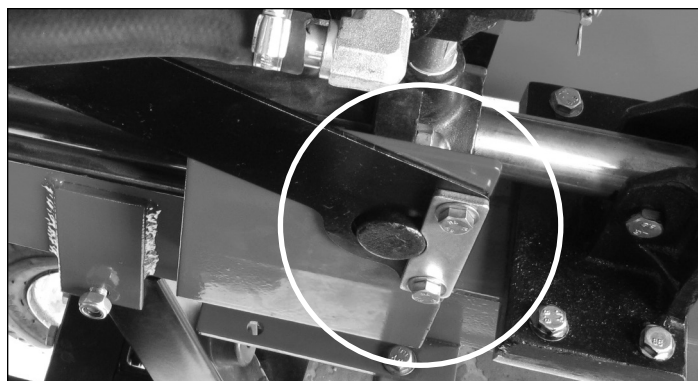

Figure 9
(European Version) Slide ram assembly, including flow valve mount support, to rear bracket and attach with (4) 20mm bolts, lock nuts, and (2) retainer plates. **SEE FIGURE 9.**